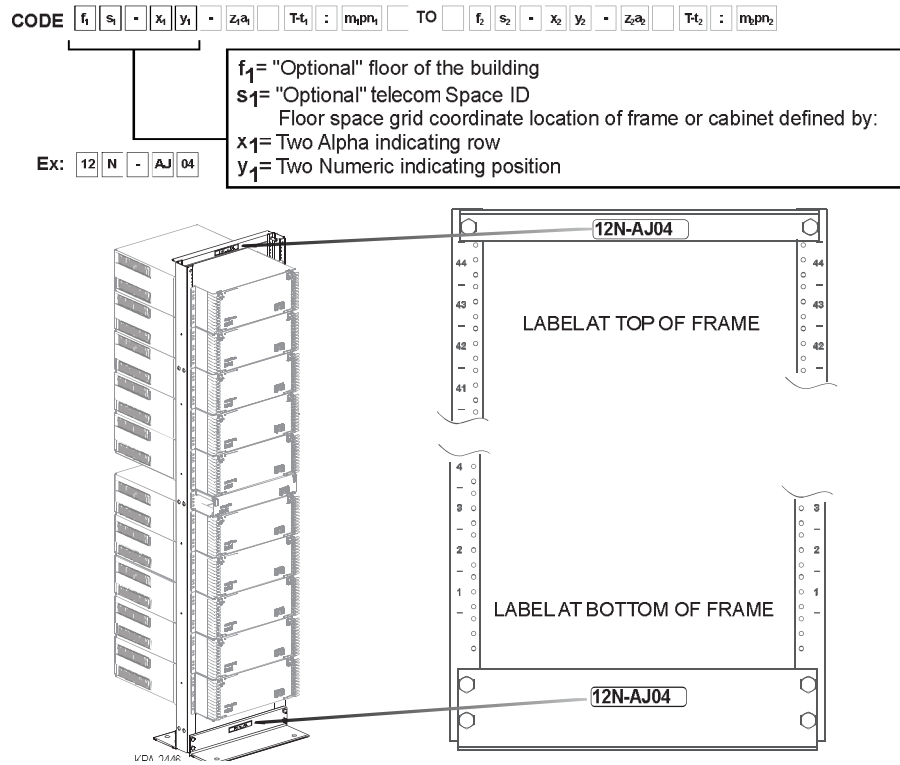

Figure 26 — Frame/Cabinet Label Location
Step 1: Frame/Cabinet Location (Figure 26)